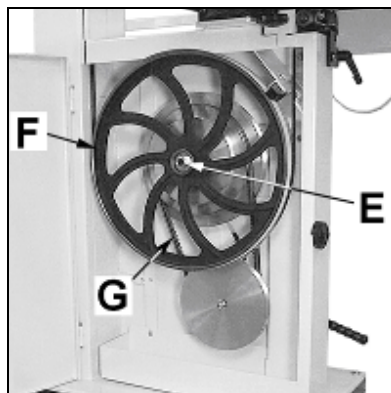

Fig 19
Remove the hex nut and washer (E, Fig 19). Remove the lower wheel (F). If the wheel does not come off easily use a pulley puller.